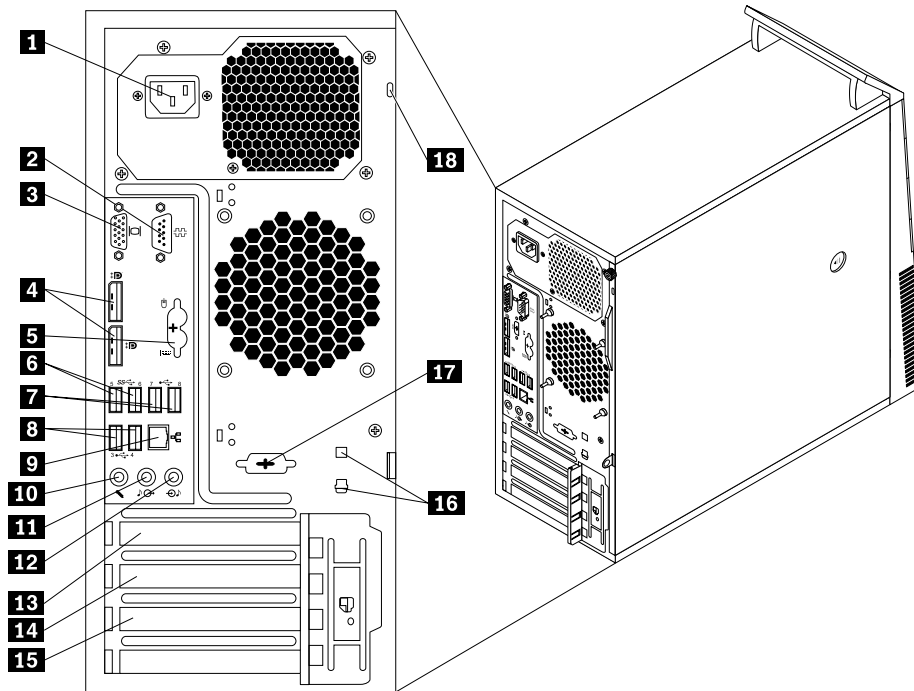

Figure 3. ThinkCentre M83 rear connector locations
- Figure 3 “ThinkCentre M83 rear connector locations” on page 69 shows the locations of the connectors on the rear of ThinkCentre M83 computer. Some connectors on the rear of your computer are color-coded to help you determine where to connect the cables on your computer.